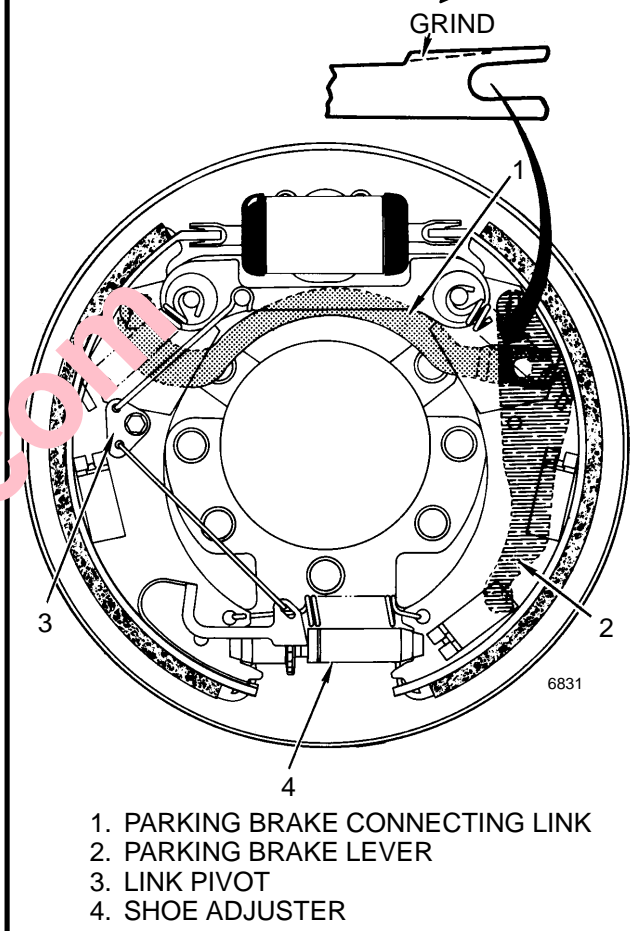

FIGURE 3. BRAKE ASSEMBLY – RIGHT
5. Lubricate the shoe pads of the back plate with molybdenum grease. Put the shoes on the back plate and install the hold down pins and clips. Engage the connecting link with the parking lever. See FIGURE 3.